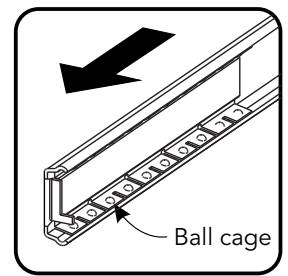

Figure 10
Slide ball cages left and right to front unit, slide keyboard and Drawer (V) into position. (See Figure 10)